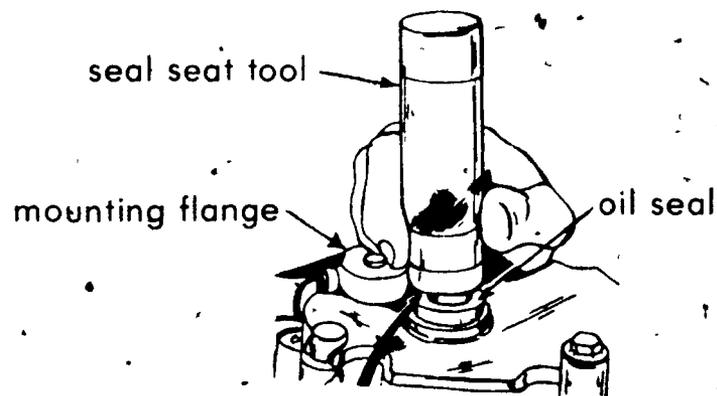

FIGURE 6
- e. Put in with new seals (Figure 6)